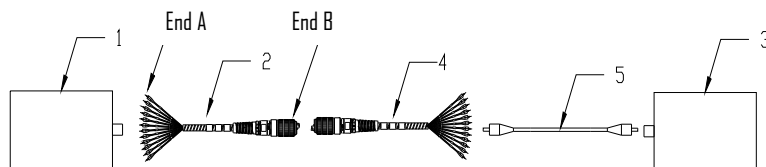

FIGURE A-4 - TEST MEASUREMENT (P₂)
- v. RECORD THE OPTICAL POWER AS P₂ (SEE FIGURE A-4)